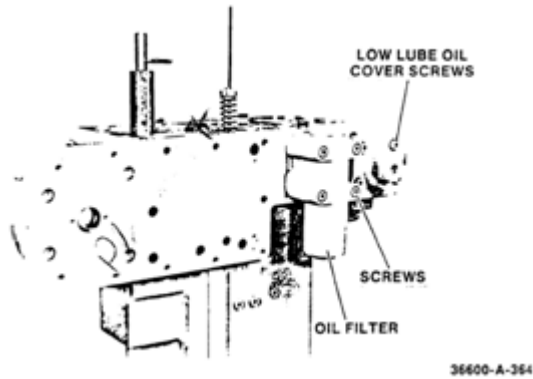

Figure 5-13. Vane Servo and Oil Filter
10. Remove vane-servo plate (Figure 5-13).
13. Remove 4 screws and oil filter (Figure 5-13).
14. Remove low-lube oil cover, spring, gasket, and bellofram (Figures 5-13 and 5-14).